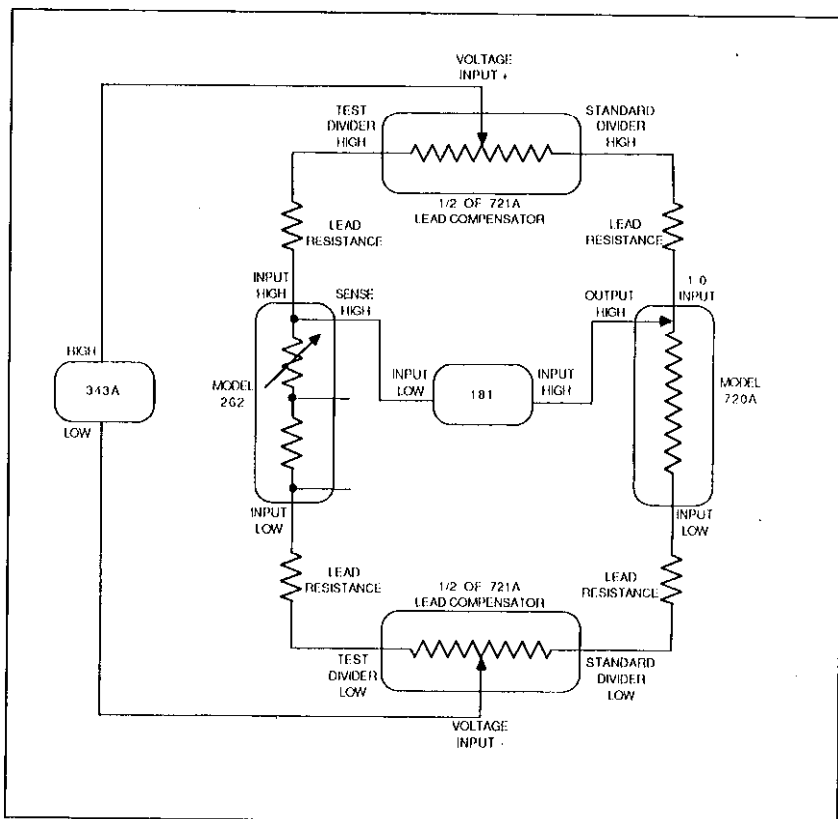

Figure 6A. HI Lead Compensation Schematic
7. Modify the equipment set up as shown in Figure 6A and B.